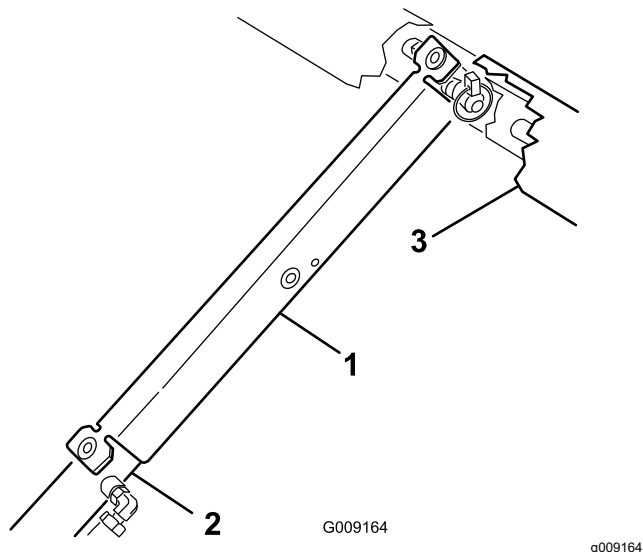

Figure 32
3. Push the bed support onto the cylinder rod, making sure that the support end tabs rest on the end of cylinder barrel, and on the cylinder rod end (Figure 32).